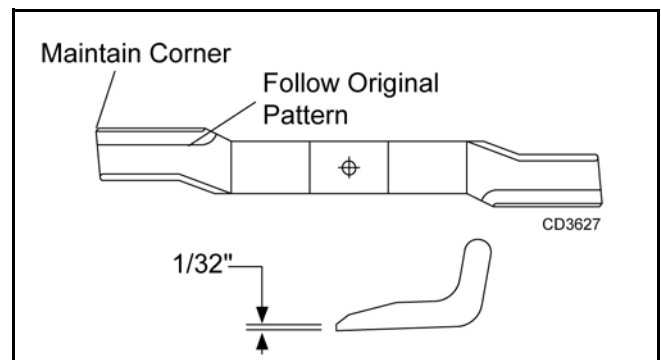

Figure 12
1. Remove cap screws (3) & lock nut (4), Figure 12.